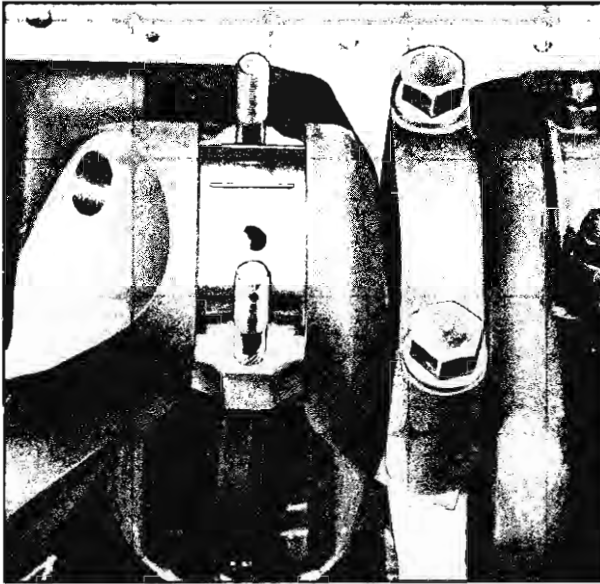

Fig. 39—Plastigage on Crankpin
3. Place a piece of Plastigage the full width of the bearing or crankpin (parallel to the crankshaft) (fig. 39).